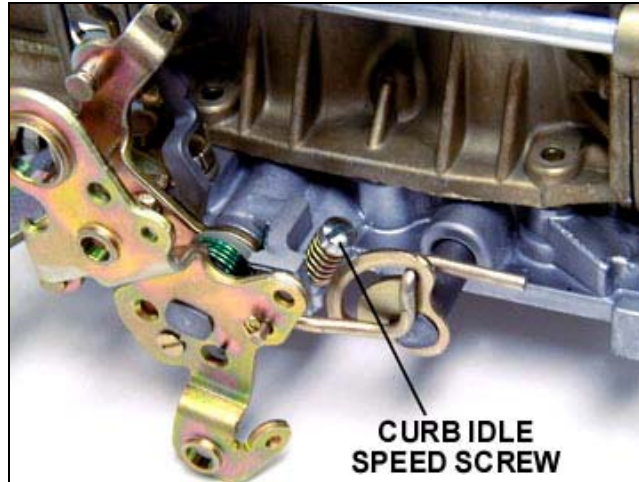

Figure 8
3. Now that the idle mixture is set, it may be necessary to go back and reset the idle speed using the curb idle speed screw, as shown in Figure 8.